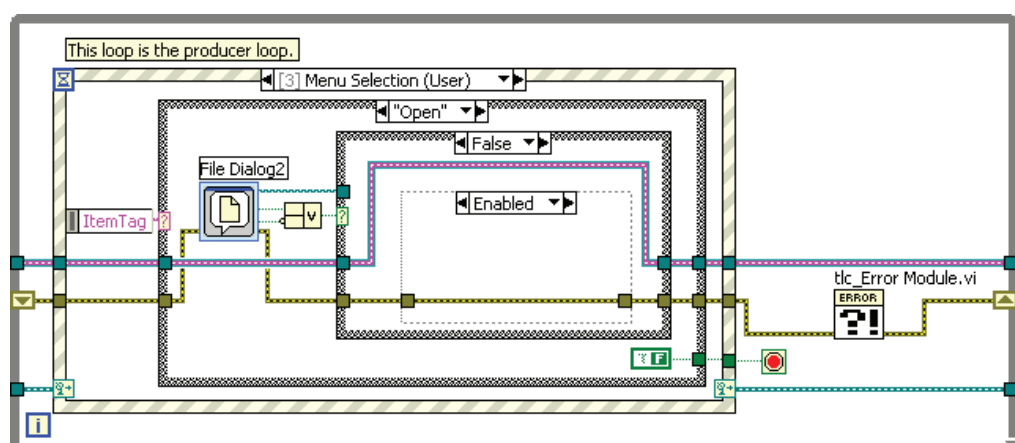

Figure 7-22. Enabled Case of Producer Loop with Diagram Disable Structure
- ☐ Switch to the Enabled case in the Diagram Disable structure, and wire the error cluster through the case as shown in Figure 7-22.